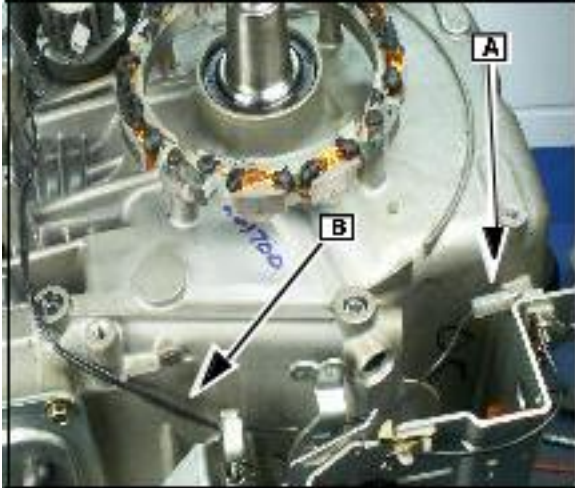

Fig. 42
Install the ignition coil harness to the ground terminal (A) and route the harness (B) Fig. 42) as shown.